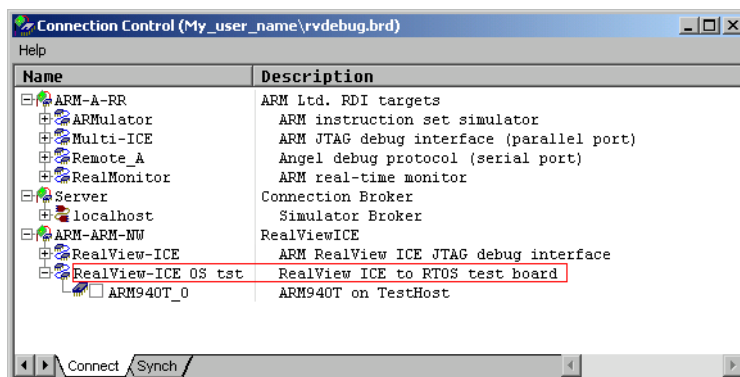

Figure 4-5 New connection in the Connection Control window
Your new RealView ICE target is now displayed in the Connection Control window, shown in Figure 4-5.
1. Ensure that you can see the new connection in the Connection Control window, shown in Figure 4-5 on page 4-11.